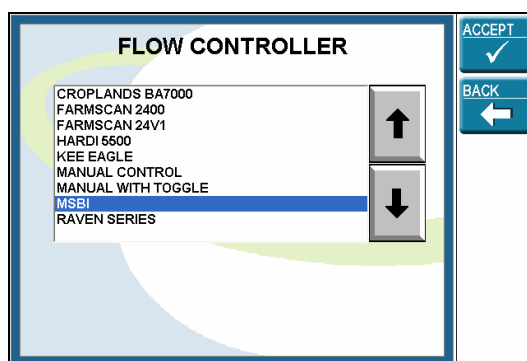

Figure 6-10: Flow Controller List Window
- 4) Select MSBI from the Flow Controller list as shown in Figure 6-10